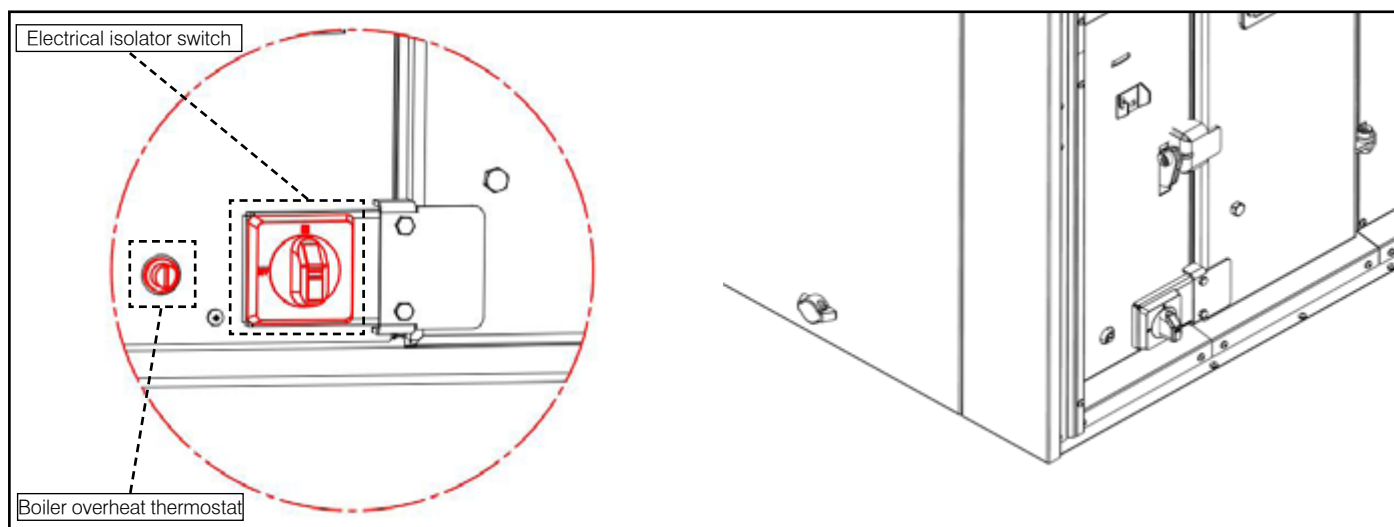

Figure 11: Overheat thermostat and electrical isolator switch
This is a built-in safety device, located at the lower front of the boiler (inside the front door of the boiler). Refer to Figure 11. This will automatically shut down the boiler in the event of it overheating.
This is a built-in safety device, located at the lower front of the boiler (inside the front door of the boiler). Refer to Figure 11. When set to OFF (O) it isolates all electrical supplies to the boiler.
- Set the electrical isolator switch to OFF (O). Refer to Figure 11.